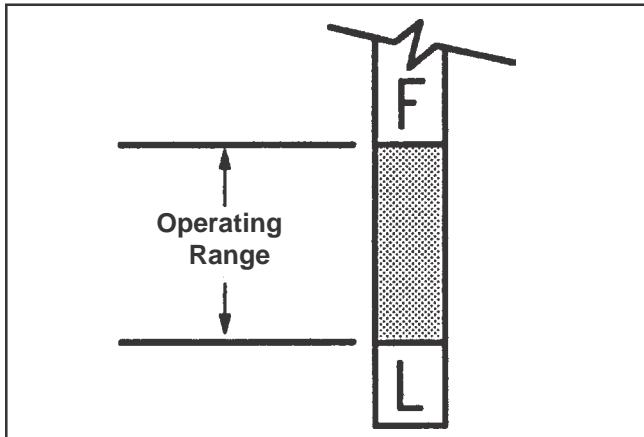

Figure 10. Oil Level Marks on Dipstick.
- Remove the dipstick and check the oil level. The oil level should be up to, but not over, the "F" mark on the dipstick. See Figure 10.